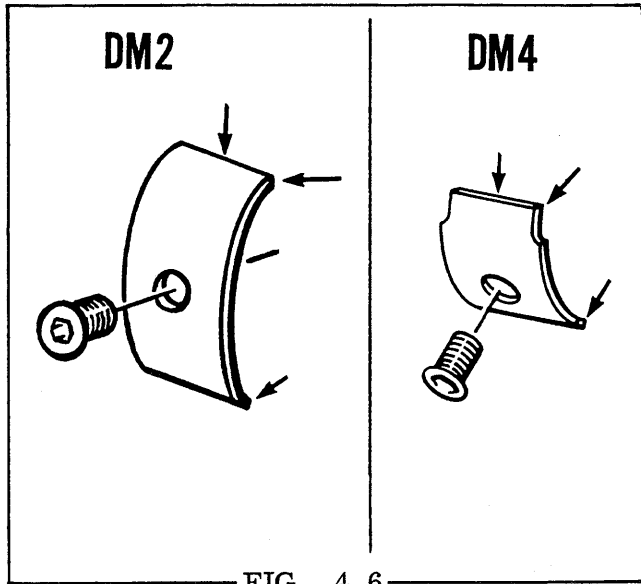

FIG. 4.6
7. Leaf Spring (s) and Screw(s) - Check for excessive wear at points where the spring(s) contacts the radii on the rotor and along the steps that retain the roller shoes. Check the adjusting screw(s) for tightness in the rotor (Figs. 4.6).